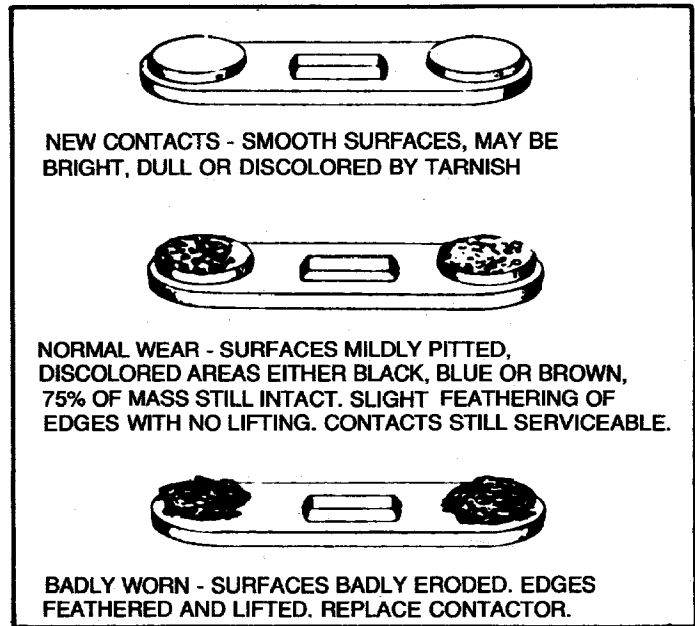

FIGURE 41 - Compressor Contactor Replacement Guide
- 5. Remove the condensing unit control box cover and inspect the panel wiring. All electrical connections should be secure. Inspect the compressor and condenser fan motor contactors. If the contacts appear severely burned or pitted, replace the contactor (refer to Figure 41). Do not clean the contacts. Inspect the condenser fan capacitors for visible damage.